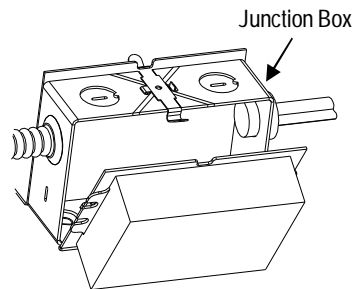

Figure 5
5. Remove knockouts on junction box to feed power supply to fixture as shown in Figure 5. Supply wire must meet applicable electrical codes and be rated for a minimum of 75°C. Junction box is thru-wire rated for 8-No. 12 AWG conductors (4in-4out). Driver is standard with 0-10V dimming capability with wires provided by others.
6. Complete necessary splices. Snap the door/driver assembly onto the junction box as shown in Figure 5.
5. Remove knockouts on junction box to feed power supply to fixture as shown in Figure 5. Supply wire must meet applicable electrical codes and be rated for a minimum for 75°C. Junction box is thru-wire rated for 8-No. 12 AWG conductors (4in-4out). Driver is standard with 0-10V dimming capability with wires provided by others.